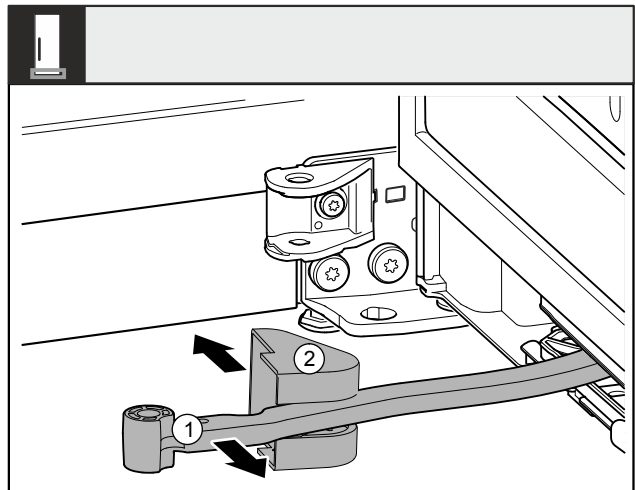

Fig. 11
- Turn the joint Fig. 11 (1) towards the door.
- Remove the swap bearing block cover Fig. 11 (2).